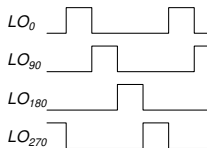

Figure 23: quadrature LO with 25% duty cycle
- ▶ Quadrature LO signalling with 25% duty cycle (figure 23)